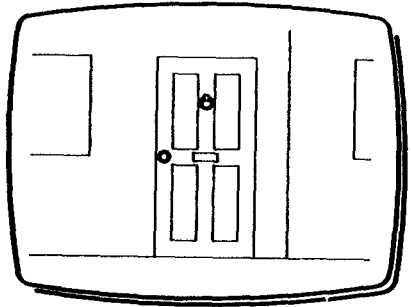

Fig 6
- 4 Try modifying the retrieved detail (Fig 6). Additions to, or deletions from the 'loaded' zoom view automatically update the Work Page and ZOOM STORE 1, thus there is no need to store again after modification.